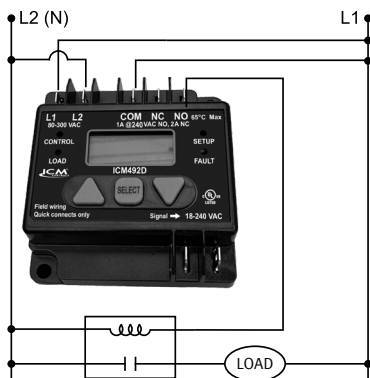

Fig. 1
4. If the load is energized by a contactor/relay, please see Fig.1 wiring diagram when using a contactor/relay with line voltage rated coils. If the contactor/relay coil voltage is anything other than line voltage, a separate power source for the coil voltage is required.